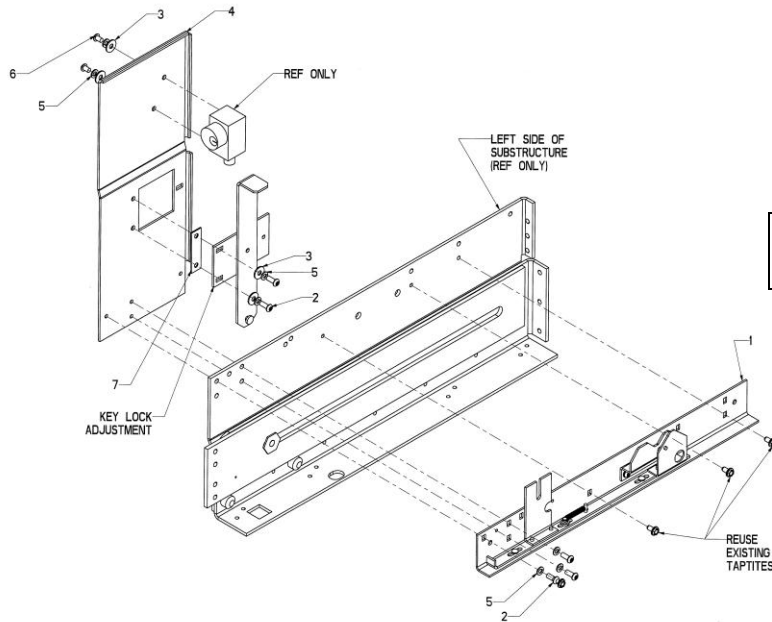

Fig. 2
2. Assemble the customer supplied key lock to the mounting plate (item #4) using 2 tamper-resistant screws (item #6), lock washers (item #5), and flat washers (item #3) as shown in Fig. 2.
3. Mount the retaining angle with slide assembly (item #1) to left side of substructure reusing 3 taptites as shown in Fig. 2. (Leave hardware loose.)
4. Attach key lock and mounting plate assembly to the left side of the substructure using 3 tamper-resistant screws (item #2) and lock washers (item #5) as shown in Fig. 2. (Leave hardware loose.)
- lock washers (item #5), flat washers (item #3), and 1 taptite (item #7) with flat washer (item #3) as shown in Fig. 2. (Leave hardware loose.)